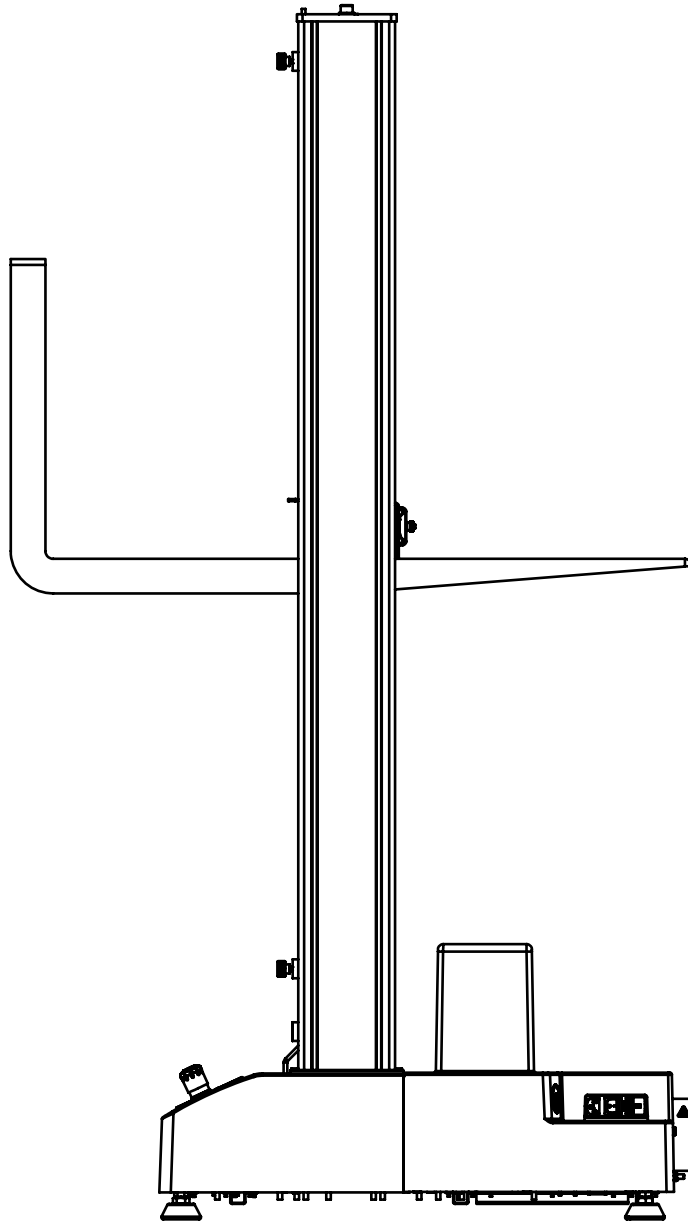

Figure 10. Lifting the Frame from the Crosshead
2. Using a forklift with padded forks or protective material around the crosshead, carefully insert the forks under the crosshead between the columns. See Figure 10 on page 58.